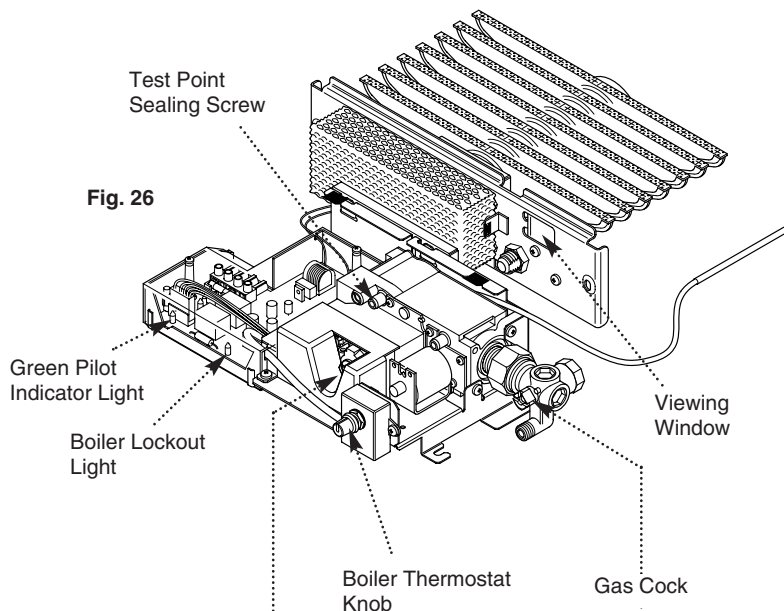

Fig. 26
4. Turn the boiler thermostat to the off position (Fig. 26).
6. Slacken the test point sealing screw and connect a pressure gauge (Fig. 26).